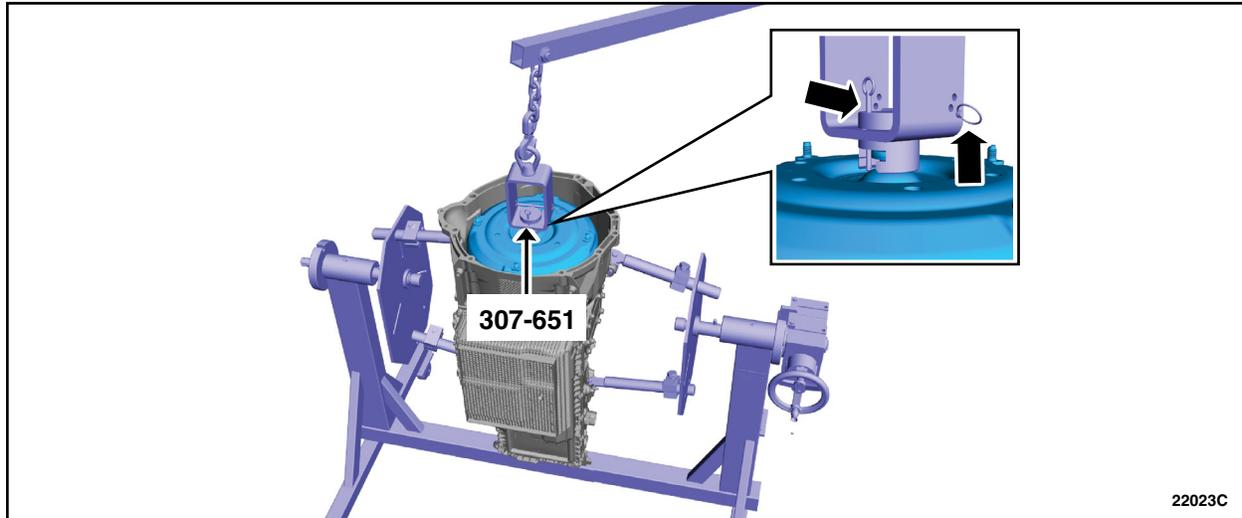

FIGURE 3
- Using the Special Service Tool: 307-651 Bracket, Pump Remove/Installer and a floor crane, remove the torque converter. See Figure 3.